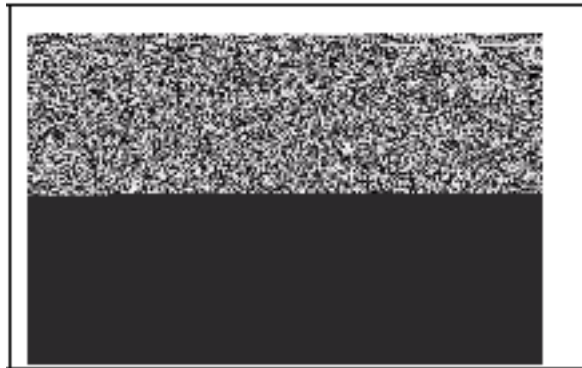

Fig. 142
Insert the choke plate (G) into the choke shaft (H) with the dimples ([I] Fig. 142) toward the air inlet side of the carburetor.